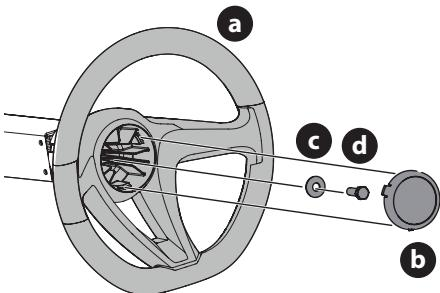

Figure 7
1. Remove the hardware for attaching the steering wheel (a) from beneath the steering wheel cover (b). Carefully remove the cover by inserting a small, bladed screwdriver into one of the three snap locations and slowly prying up on the steering wheel cover (b) to remove the hardware (Figure 7).
2. With the wheels of the machine pointing straight forward, place the steering wheel (a) over the steering shaft. (Figure 7).
3. Place the Belleville washer (c) with the cupped side facing inward over the steering wheel and secure with the hex lock screw (d) (Figure 7).
4. Place the steering wheel cover (b) over the center of the steering wheel (a), align the three snaps with the tabs in the steering wheel and push downward until it "clicks" into place (Figure 7).